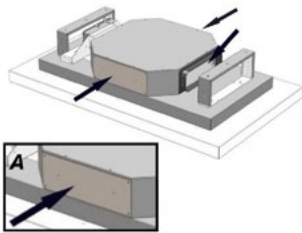

FIG.4
- › Choose one of the three air outlets shown in Fig.4.